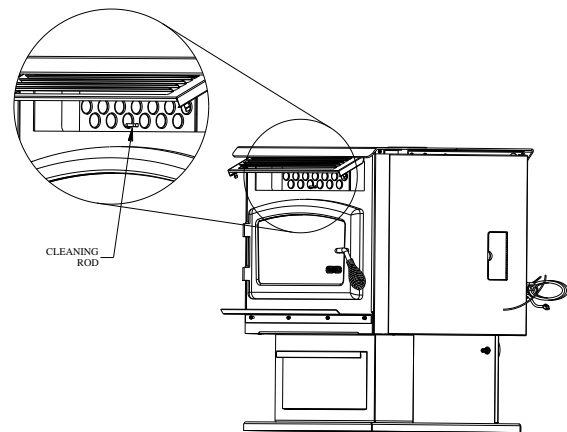

FIGURE 19
- a. **Heat Exchange Tubes** – Your ECO-45 stove is designed with a build-in heat exchanger tube cleaner. This should be used weekly to remove accumulated ash on the tubes. To clean the heat exchanger, open the door and grab the cleaning rod located behind the louvers (just above the stove's door) and push it forward. Close the door. Slide the cleaning rod back and forth two or three times from front to back (refer to figure 19). When finished, push the cleaning rod back in, behind the louvers.